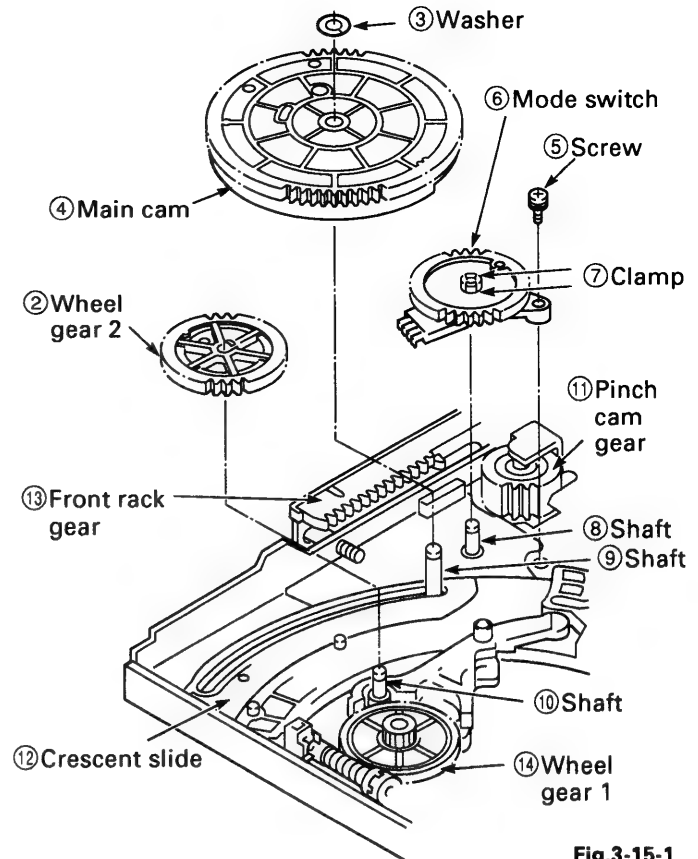

Fig.3-15-1
(See Figs.3-15-1 and 3-15-2)
3. Beforehand, remove the soldering from the soldered part of the MC-1 PWB assembly, in order to prevent the mode switch ⑥ being warped. Solder the mode switch ⑥ after tightening the screw ⑤ (See Fig. 3-15-1).